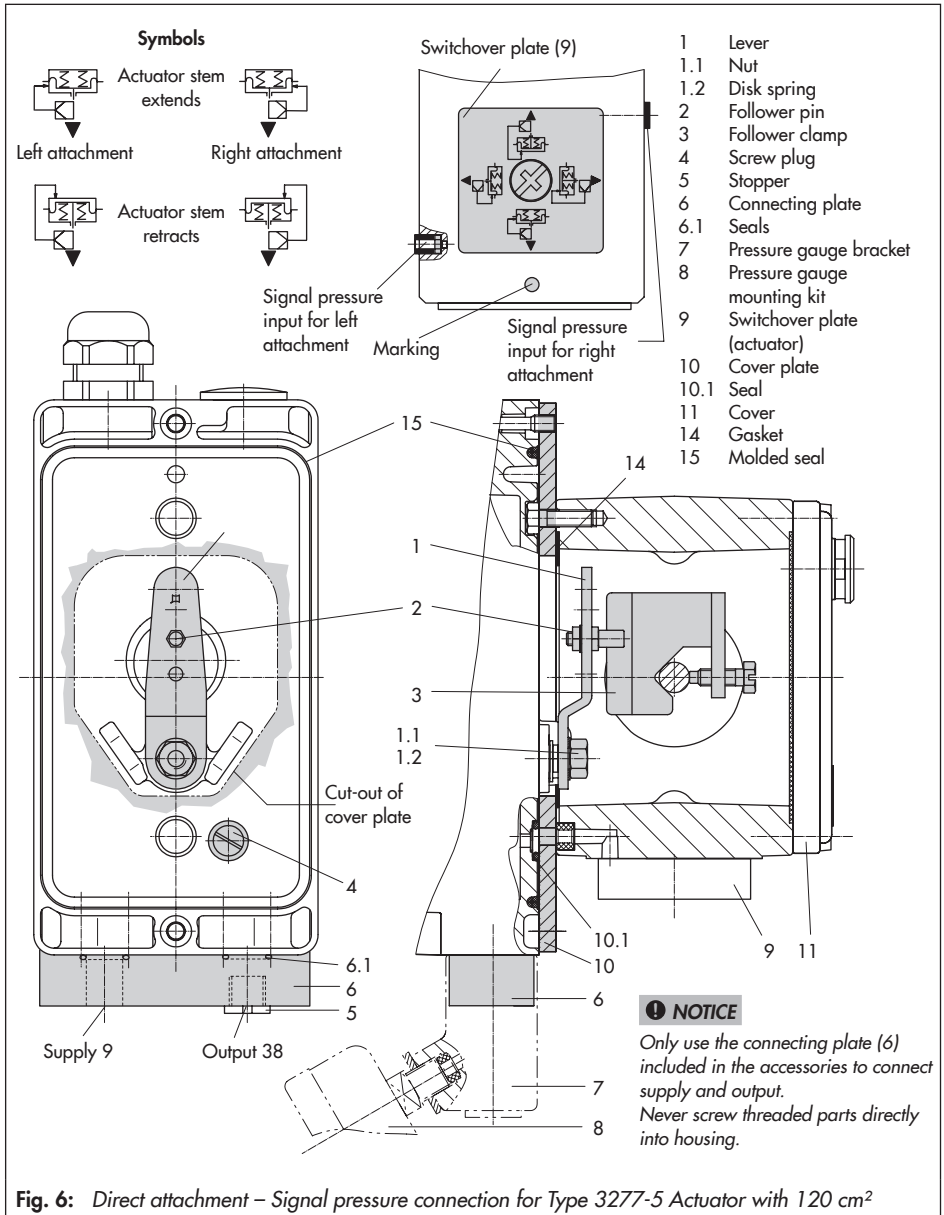

Fig. 6: Direct attachment – Signal pressure connection for Type 3277-5 Actuator with 120 cm2
##### Actuator with 120 cm2 (see Fig. 6)
1. Mount connecting plate (6) or pressure gauge bracket (7) with pressure gauges on the positioner, making sure the two seals (6.1) are seated properly.
2. Remove screw plug (4) on the back of the positioner and seal the signal pressure output (38) on the connecting plate (6) or on the pressure gauge bracket (7) with the stopper (5) included in the accessories.
3. Place follower clamp (3) on the actuator stem, align it and screw tight so that the mounting screw is located in the groove of the actuator stem.
4. Mount cover plate (10) with narrow side of the cut-out (Fig. 6, on the left) pointing towards the signal pressure connection.